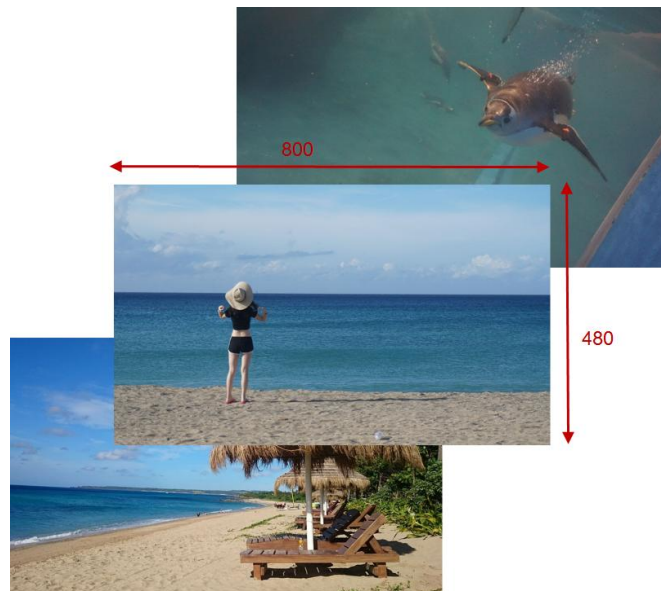

Figure 4-6 Original Photo Resolution
- Prepare three 24-bit *bitmap* format photos with image resolutions of 800 (width) x 480 (height) pixels for each, as shown in **Figure 4-6**.